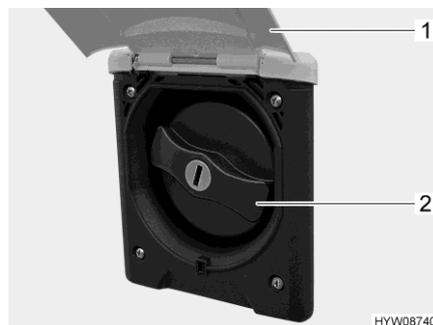

Fig. 193 Cap (drinking water filler neck)
- Swivel the external flap (Fig. 193,1) upwards.
- Turn the blue cap (Fig. 193,2) one quarter turn.